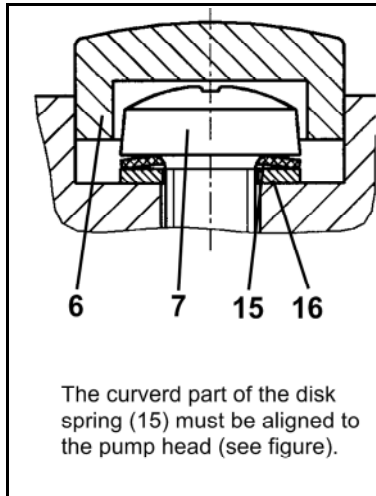

Fig. 6: Orientation disk spring
8. Place the head plate (4) on the intermediate plate (1), in the position indicated by the marking (M).
9. Check that the head plate (4) is centred by moving it gently sideways.
10. Join the head plate (4) and the intermediate plate (1): Tighten the two screws (7) (tightening torque: 70 Ncm).
- i** For placement of disk spring (15) and washer (16) and for orientation of disk spring see fig. 6.
11. Install the screw caps (6).